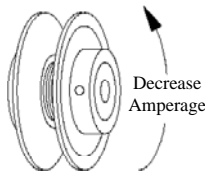

Fig. 5
- **Pulley adjustment.** With an ammeter, check the motor amperage. Adjust the pulley until the amperage draw on the motor is just below that specified on the motor nameplate. To adjust the pulley, loosen the adjustment set screw and rotate the sheave. Tighten the set screw so that it is over a flat area, otherwise thread damage will occur. To increase amperage draw, increase pulley diameter. To decrease amperage draw, decrease pulley diameter (Fig. 5). Recheck belt alignment.